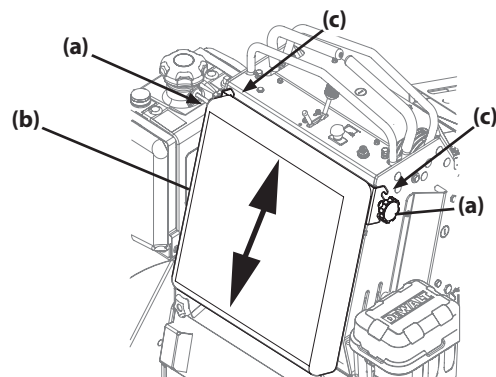

Figure 7
1. Loosen the two star knobs (a) securing the leg pad (b) to the mower. See Figure 7.